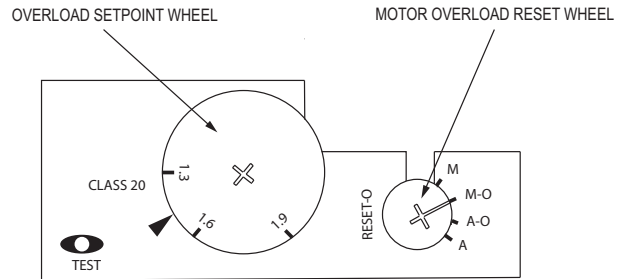

Fig. 31 — Motor Starter Setting
1. On the starter, adjust the Motor Overload to match the **FLA Rating** of the installed motor by turning the Overload Setpoint wheel to the appropriate value. See Fig. 31.